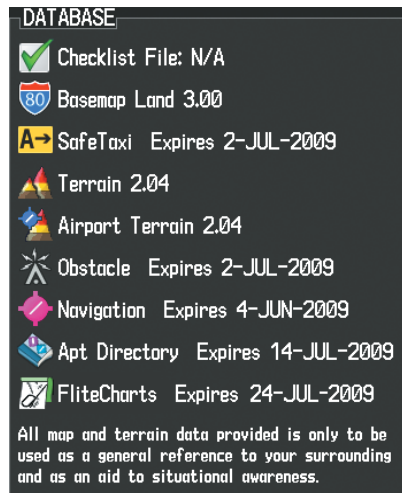

Figure B-5 Database Information on the Power-up Screen
- 4) Apply power to the system, check that the databases are initialized and displayed on the power-up screen (Figure B-5). When updating the terrain and FliteCharts databases, a 'Verifying' message may be seen. If this message is present, wait for the system to finish loading before proceeding to step 5.